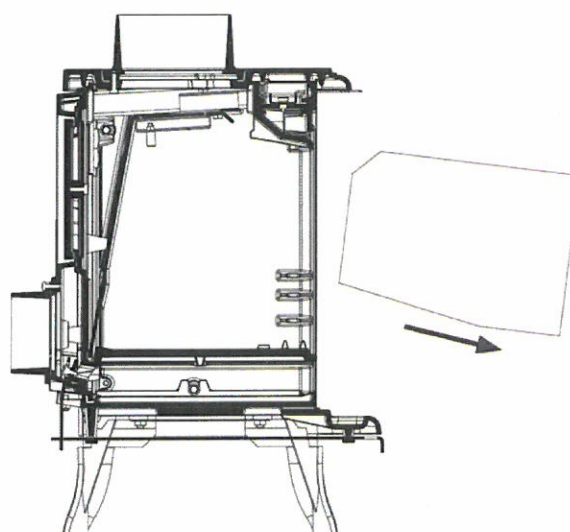

Figure 6b
- 3) See figure 6b. Remove both side firebricks.